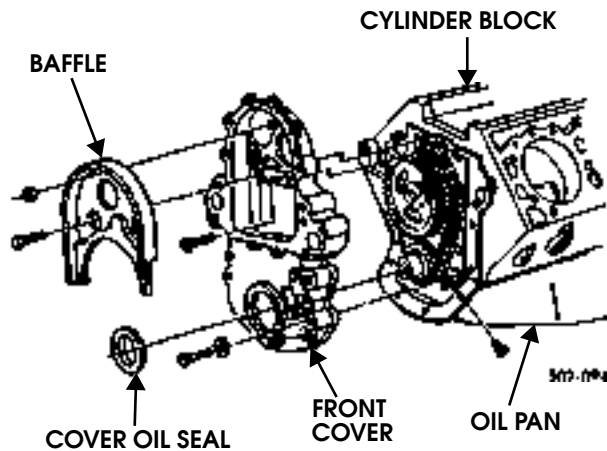

Figure 2-87: Front Cover and Baffle Removal
1. Remove baffle from front cover (Figure 2-87).